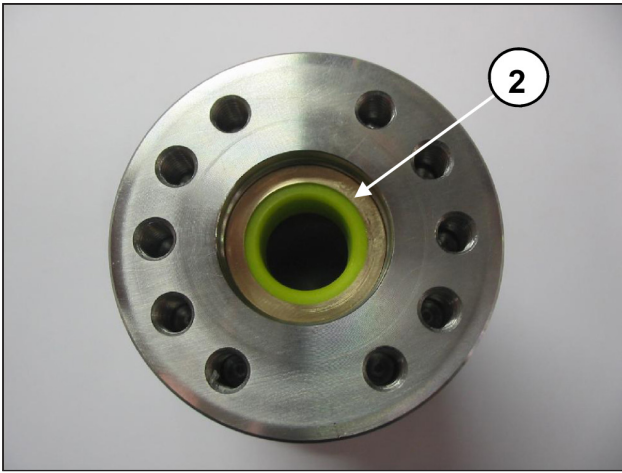

Fig. 41
- Insert the anti-extrusion ring ② and the gasket bush ③ arranged as shown in Fig. 41, Fig. 42, Fig. 43.